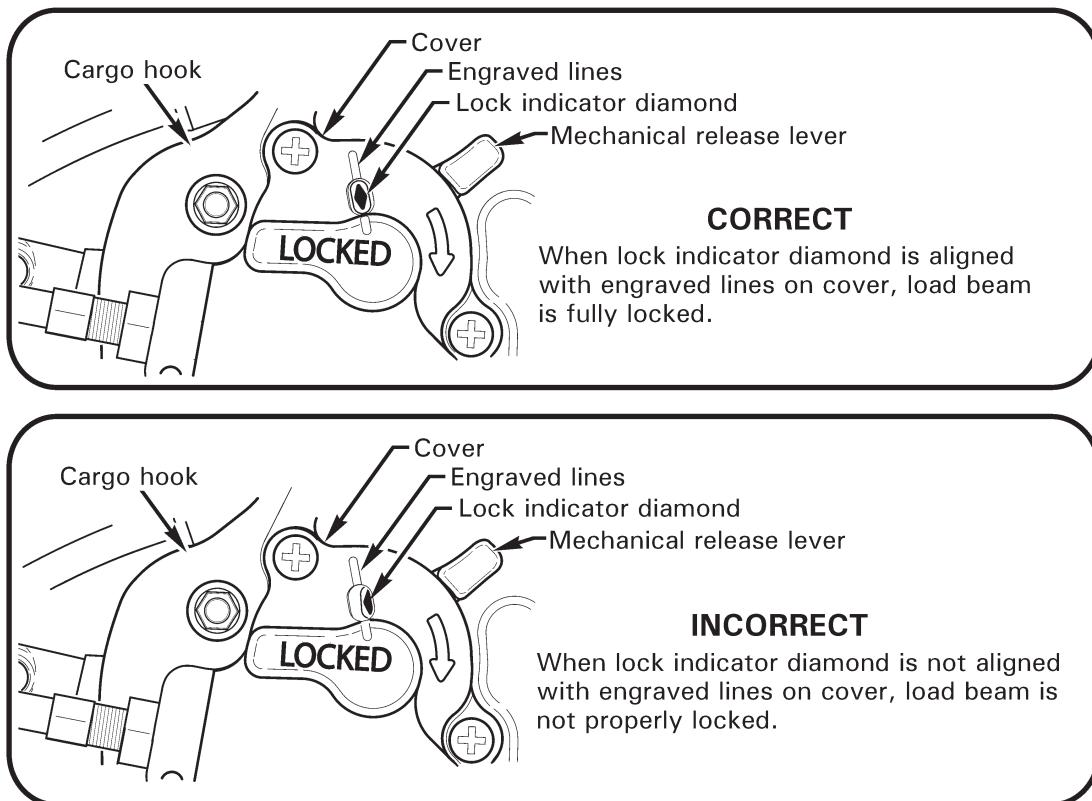

FIGURE 25-3 LOCK INDICATOR
9. Refer to Figure 25-3. Push-in (10 amp) HOOK RELEASE and (10 amp) EXT LOAD (if installed) circuit breaker(s) on circuit breaker panel. Turn battery switch on. Verify proper function of electrical release. Reset load beam by hand. Verify lock indicator returns to locked position. Turn battery switch off.
1. Push-in (10 amp) HOOK RELEASE and (10 amp) EXT LOAD (if installed) circuit breaker(s) on circuit breaker panel. Turn battery switch on. Refer to Figure 25-3. Verify proper function of electrical hook release. Reset load beam by hand. Verify lock indicator returns to locked position. Turn battery switch off.